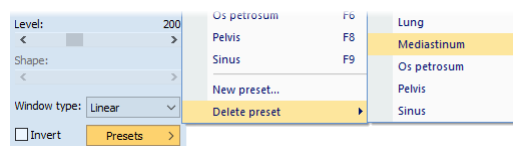

Figure 162 – Deleting a window/level preset
3. Select the preset you want to remove in the displayed submenu list (see Figure 162).